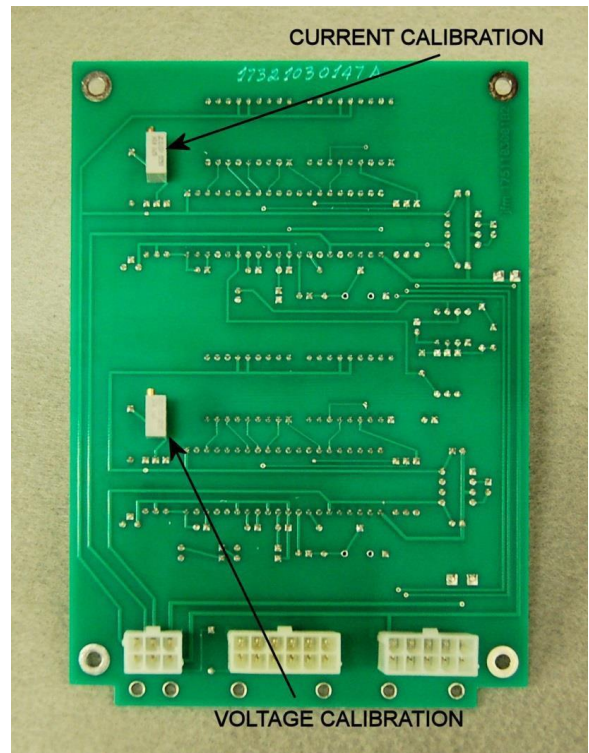

Figure 6 – Meters Board Adjustments (rear view)
14.2 DIGITAL METERS (see Figure 6)